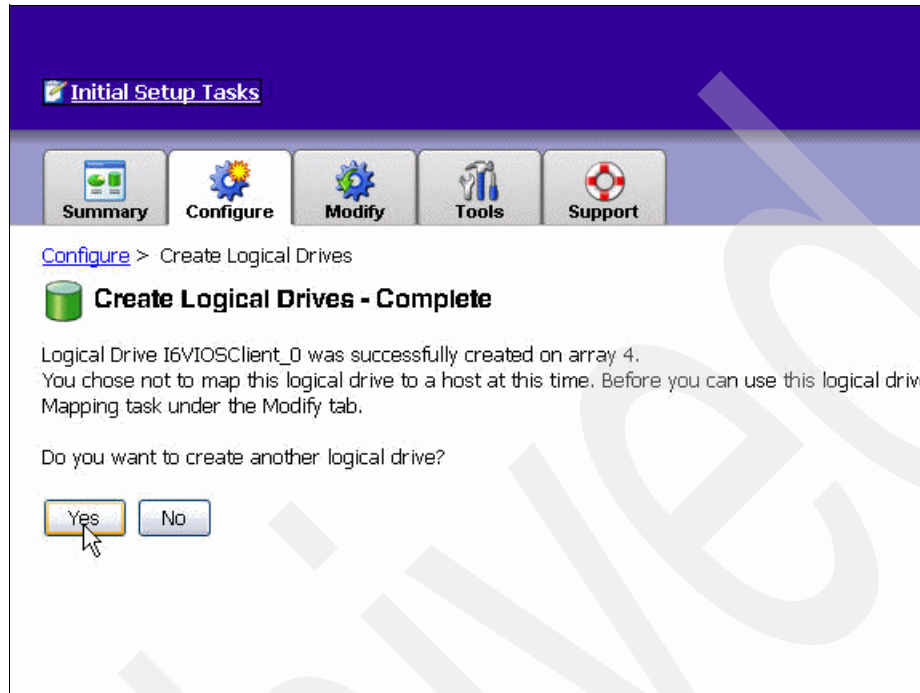

Figure 7-32 Start creating next logical drive
8. On the Create Logical Drives - Complete window we receive confirmation that the drive is successfully created and have the option to define another logical drive. We click **Yes** to create the next logical drive, as shown in Figure 7-32.